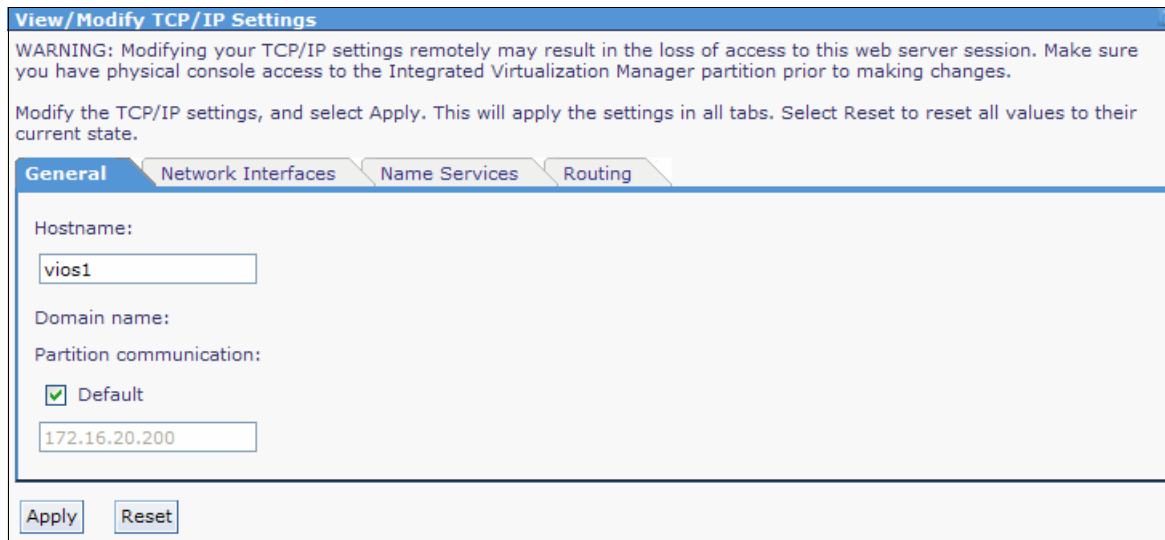

Figure 3-1 View/Modify TCP/IP settings
1. From the IVM Management menu, click **View/Modify TCP/IP Settings**. The View/Modify TCP/IP Settings panel opens, as shown in Figure 3-1.